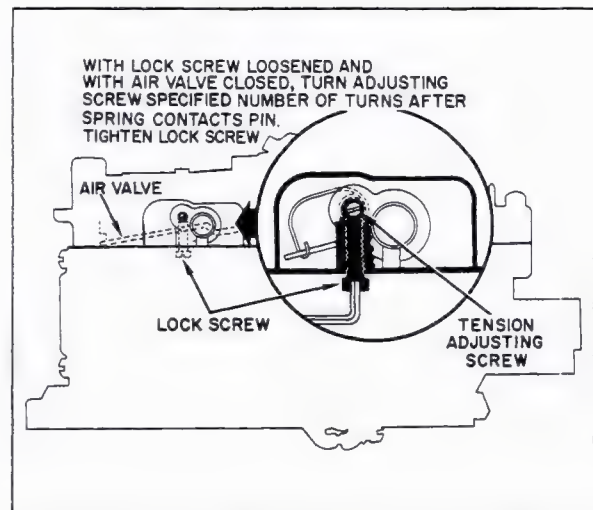

Fig. 6-86 Air Valve Spring Wind-Up Adjustment
**89. Air Valve Spring Wind-Up Adjustment (Fig. 6-86)**
1. Loosen allen socket head lock screw, Fig. 6-86, and turn adjusting screw counterclockwise to remove all spring tension.